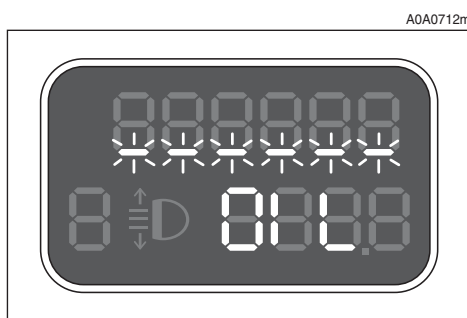

fig. 85
**Fig. 85** refers to the display with an oil level below the foreseen minimum. In this condition the display shows the flashing bars and the message "**OIL**" for about 10 seconds.